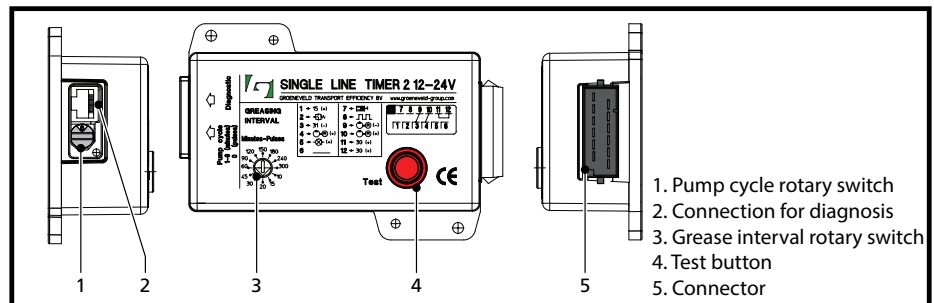

fig. 5.1 SingleLine Timer (SLT)
The greasing interval time can be adjusted with the grease interval rotary switch (Figure 5.1/3) at the SLT. Rotate the switch by using a suitable screwdriver, to the desirable position. As a confirmation, a short audible beep sounds when rotating the switch in each position. A greasing cycle starts automatically after every completed greasing cycle and set greasing interval time.
Ensure the rotary switch (Figure 5.1/1) at the side is set to 0 in order to operate the SLT as a pulse counter, along with a fixed 3-minute pumping time. Please refer to paragraph 5.4 Determining and adjusting the pumping time.
With the rotary switch (Figure 5.1/1) at the side of the SLT the pumping time can be adjusted. Please follow the next steps in order to determine the pumping time
At position 0 the SLT will act as pulse timer. Therefore pin 8 of the SLT connector (Figure 5.1/5) requires to be connected to the brake lights or pulse switch for example.
4. Manually operate one greasing cycle, by pushing the red test button (Figure 5.1/4) until a short audible beep will sound, hence release the test button and a greasing cycle starts momentarily. Record the time between the manually started greasing cycle and the on-pressure signal. The on-pressure signal can be identified when the internal alarm buzzer sounds a 3-second audible-pulsing signal.